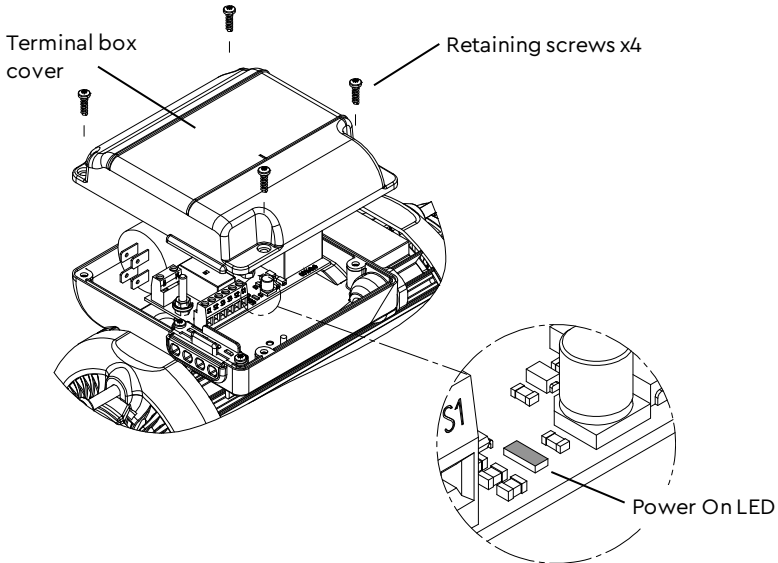

Figure 18
6. Remove the four screws retaining the terminal box lid (Figure 18).